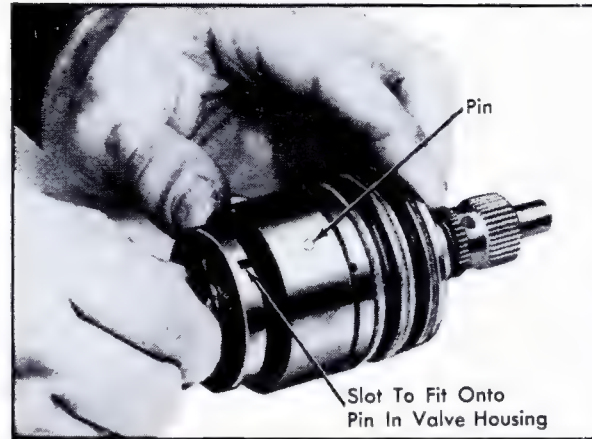

Fig. 9-31 Installing Stub Shaft
3. Assemble stub shaft in valve body, aligning groove in valve cap with pin in valve body. Fig. 9-31. Tap lightly on cap with a plastic or rawhide mallet until cap is against shoulder in valve body with valve body pin in cap groove. Hold these parts together during the rest of the assembly.